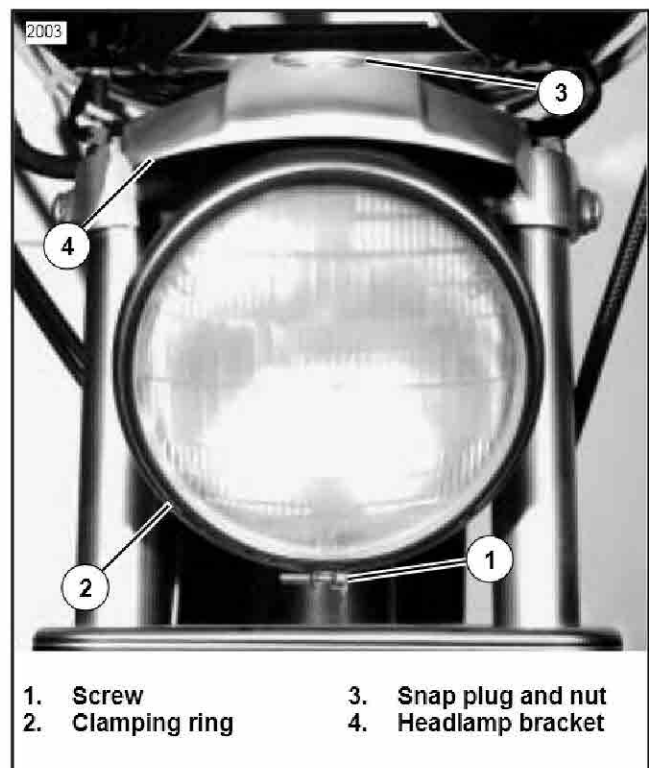
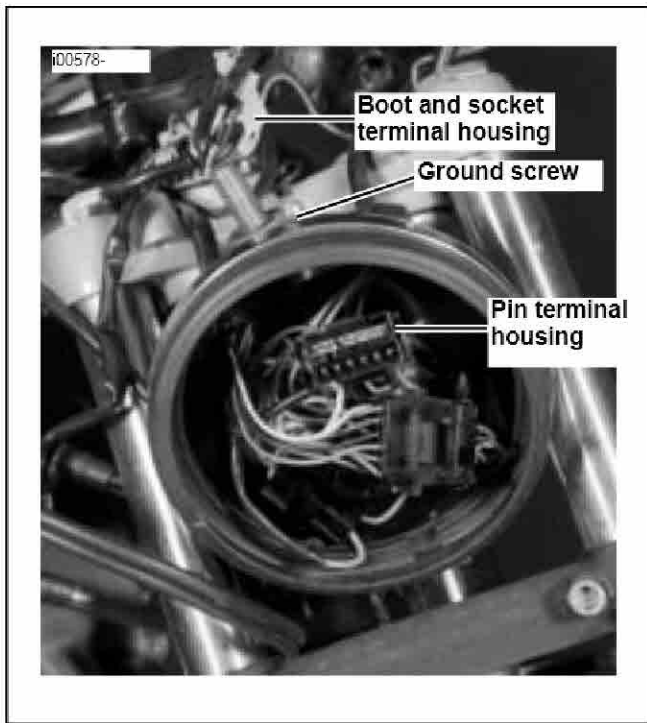

Figure 1. Headlamp Mounting
Figure 2. Headlamp Connector
5. See Figure 1. Remove screw (1) from the outer clamping ring (2) and remove the sealed beam unit.
6. Remove the snap plug (3) on top of the headlamp bracket and remove the nut beneath it.
7. Remove two capscrews securing the headlamp bracket (4) and remove the bracket.
8. See Figures 2 and 3. Disconnect the electrical socket located on the top of the headlamp housing by pressing on the short sides of the connector boot and pulling upward.
3. See Figure 2. Remove the ground screw holding a black wire on the upper triple clamp. Reconnect this black wire together with the black tachometer wire to the triple clamp. Tighten the screw to 15-21 in-lbs.